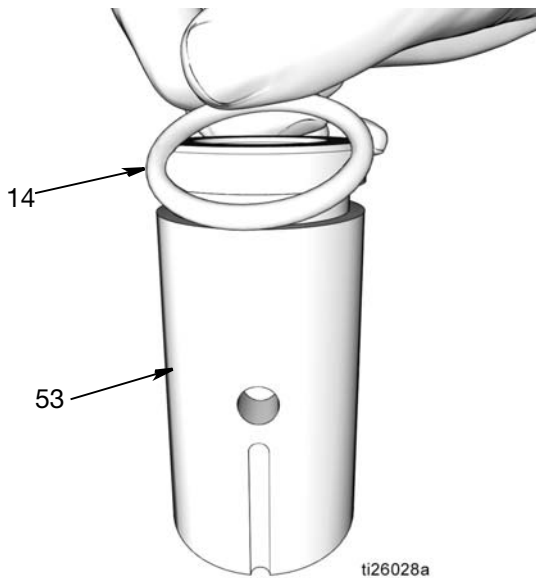

FIG. 40
5. Pump Element Sleeve (53)
- a. Use a clean cloth to wipe down the pump element sleeve (53) and remove any dirt or contaminants. Inspect surface for any scratches or damage.
- b. Apply a thin layer of grease to o-ring (14). Install o-ring around the pump element sleeve (53) (FIG. 40).